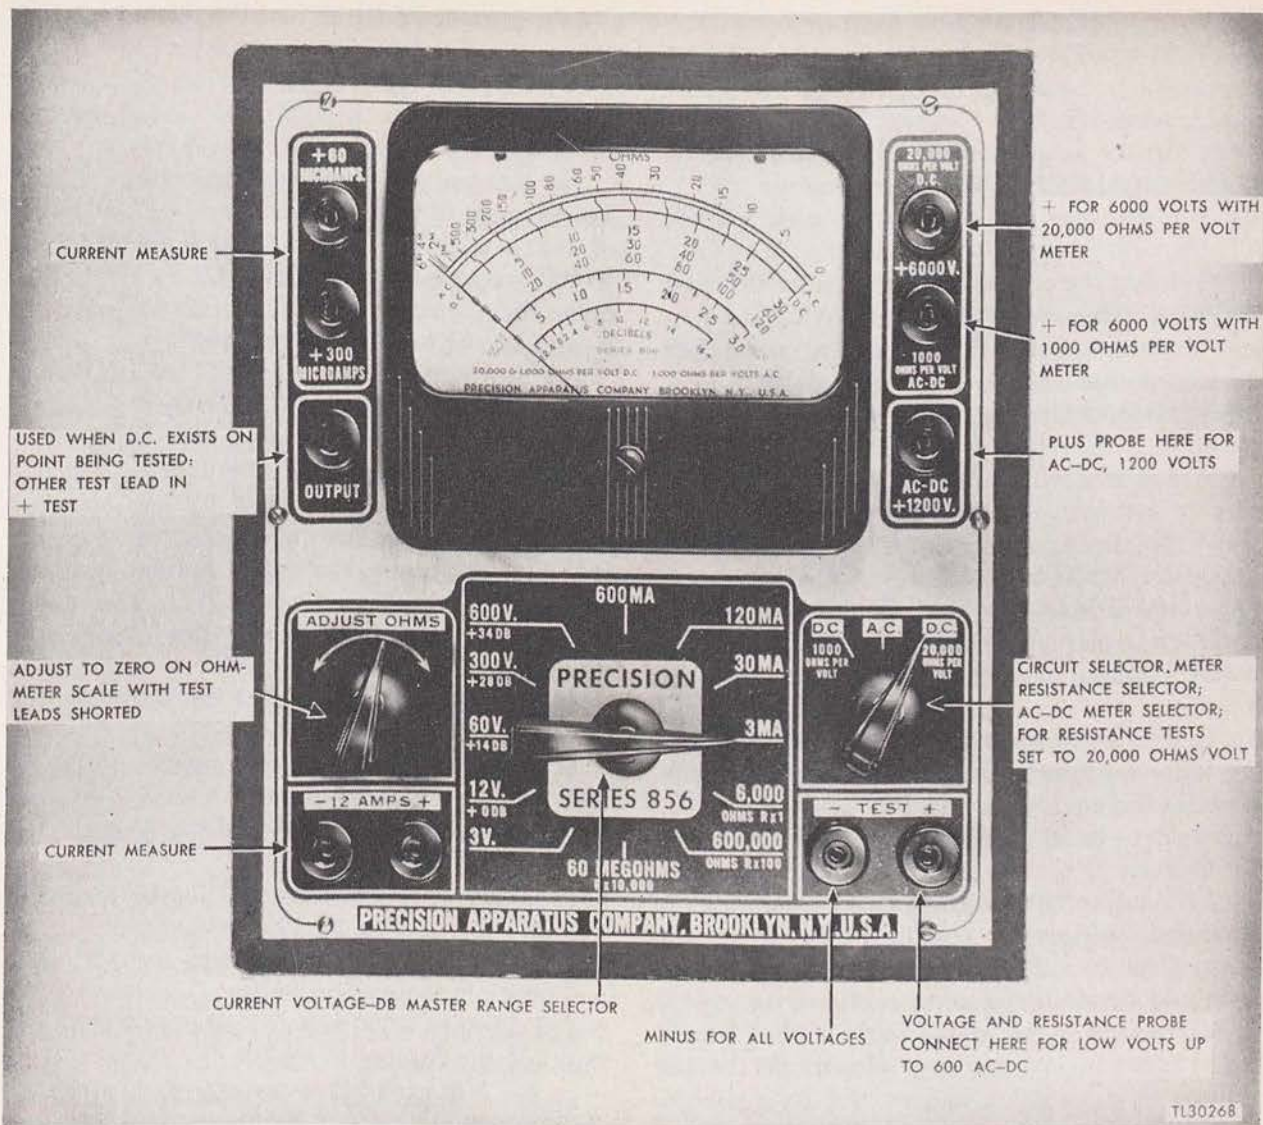

Figure 4. Precision analyzer, series 856.
b. RANGES. (1) *D-c voltage.* Seven ranges: from zero to 3; 12; 60; 300; 600; 1,200; 6,000.
c. LOCATION AND PURPOSE OF CONTROLS (fig. 4). (1) *Switches and jacks.* The selector switch, located in the center directly below the meter, is used for selecting ranges of 3 to 600 volts, 3 to 600 milliamperes, and the resistance ranges. When measuring within these ranges, the test leads should be inserted in the two jacks located in the lower right corner that are labeled — TEST +. The selector switch is not used for ranges of 60 to 300 microamperes, 1,200 to 6,000 volts, or 12 amperes.